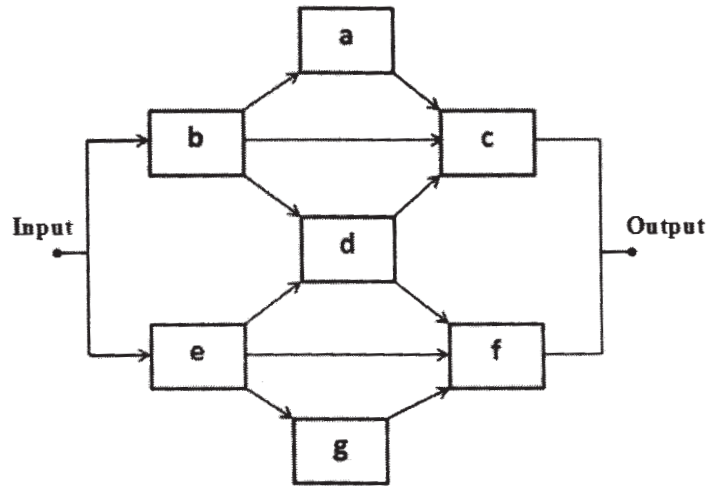

Fig. 1 Block diagram
- b) For the block diagram shown in Fig.1, derive the equation using tie-set method to obtain the reliability of the system assuming the elements to be independent. Also, draw an equivalent block diagram for the minimal tie-sets and hence, find the reliability of the system if reliability of all elements is of 0.9. **[6]**